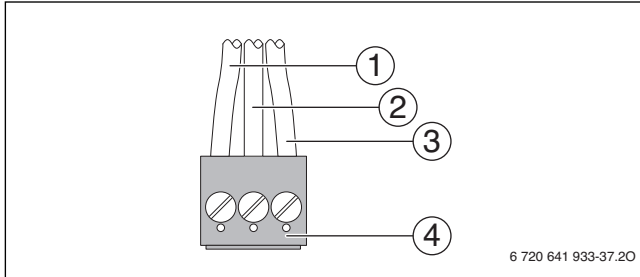

Fig. 53 Attach plug (external DHW tank loading pump or 3-way valve)
- ▶ Connect cable to **the red plug** according to Fig. 53.